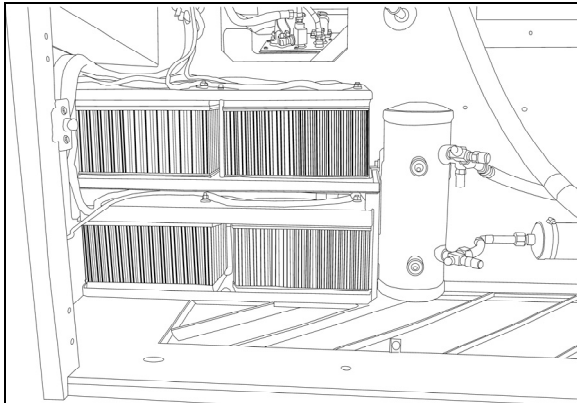

FIGURE 8: LOCATION OF BATTERIES IN CONDENSER COMPARTMENT 22300
The vehicle is provided with four (4) maintenance-free 12 volt heavy-duty batteries connected in series-parallel (Fig. 8 & 11). The top-mounted negative and positive terminals are tightly sealed to prevent leaks. Water never needs to be added to this type of battery. There are no filler caps in the cover. The battery is sealed, except for small vent holes in the cover. The vents must not be restricted as they allow small amounts of gases produced in the battery to escape. The special chemical composition inside the battery reduces gassing to a very small amount at normal charging voltages. Besides reducing gassing, the special chemistry
1. Remove the two quarter turn nuts to remove the protective cover (Fig. 8)